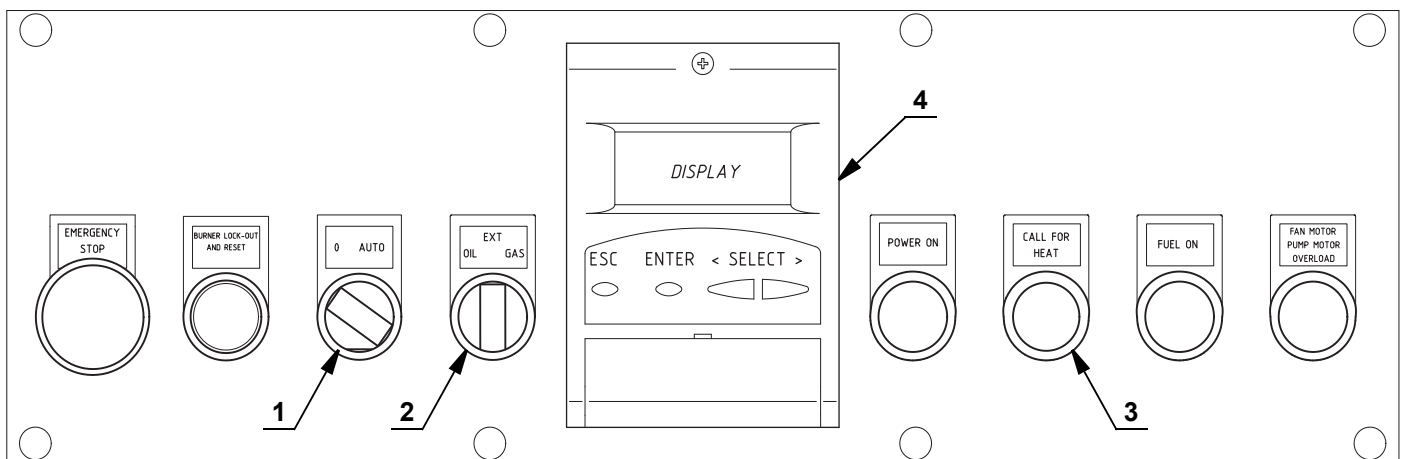

Fig. 32
Position the selector 1)(Fig. 32) in "AUTO".
Close the remote controls and position the selector 1)(Fig. 32) to "AUTO".
- 1 with the AZL device 4)(Fig. 32);
Positioning the selector 2)(Fig. 32) to "EXT" activates the remote selection of the fuel. In this position, if there is no remote selector, the display shows the priority fuel.